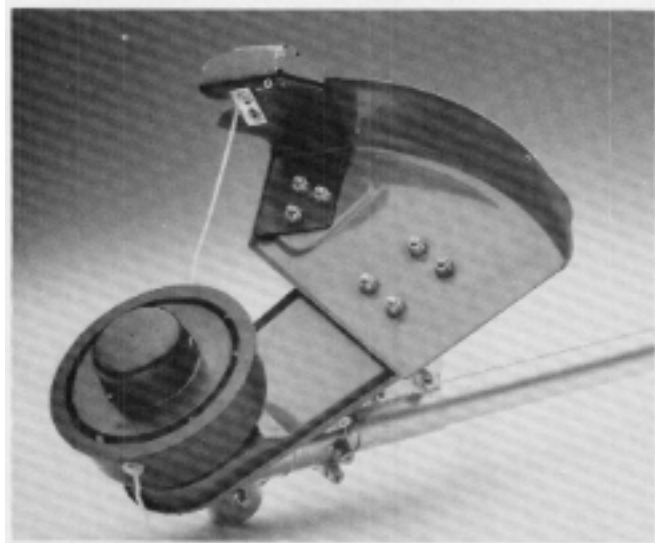

Figure 127
(TC5000) Using the cutter knife as a template, drill three holes in the shield. See Figure 127.
3. Mount the cutter knife (Toro part number 61-4540) on the shield using three machine screws and nylon lock nuts (Toro part numbers 32105-8 and 3296-2 respectively). See Figure 127.